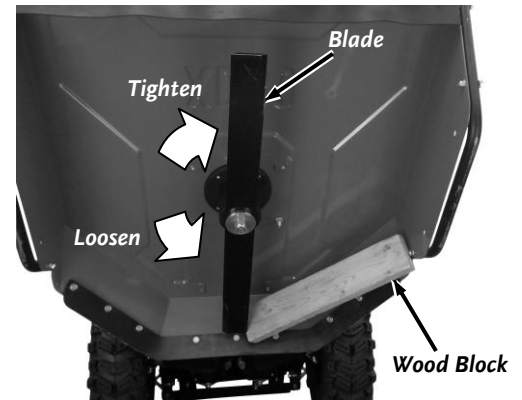
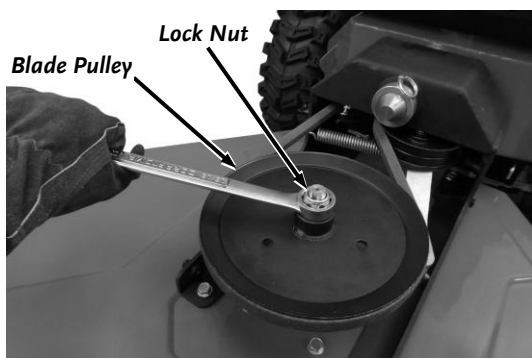

Figure 42
Figure 47
1. Insert a Wood Block between the Blade and the Deck to stop rotation (**Figure 42**).
4. Block the blade with a block of wood (**Figure 42**) as you remove the Pulley Locknut using a 15/16" Wrench (**Figure 47**).